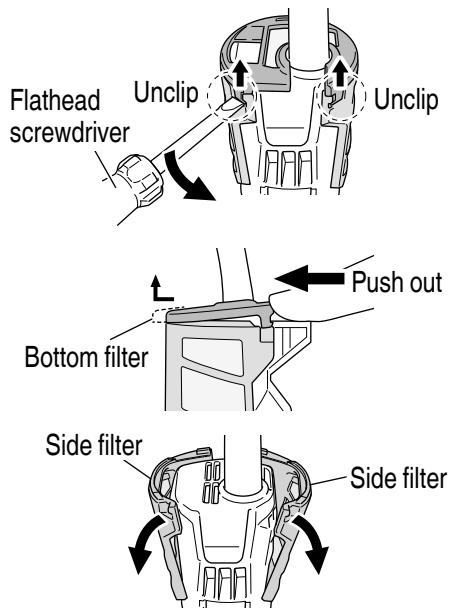

Fig. 12
**Removal procedure (Fig. 12)**
- (1) Use a flathead screwdriver to unclip the two clips joining the bottom and side filters.
- (2) Push out the bottom filter in the direction indicated by the arrow.
- (3) Removing the bottom filter also allows the removal of the two side filters.